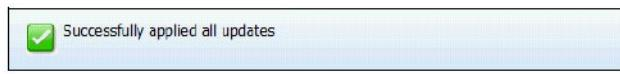

Figure 6-20 Update process completion message
12. When the update is finished, a message displays confirming that the updates have been applied successfully, as shown in Figure 6-20. Click **Next**.